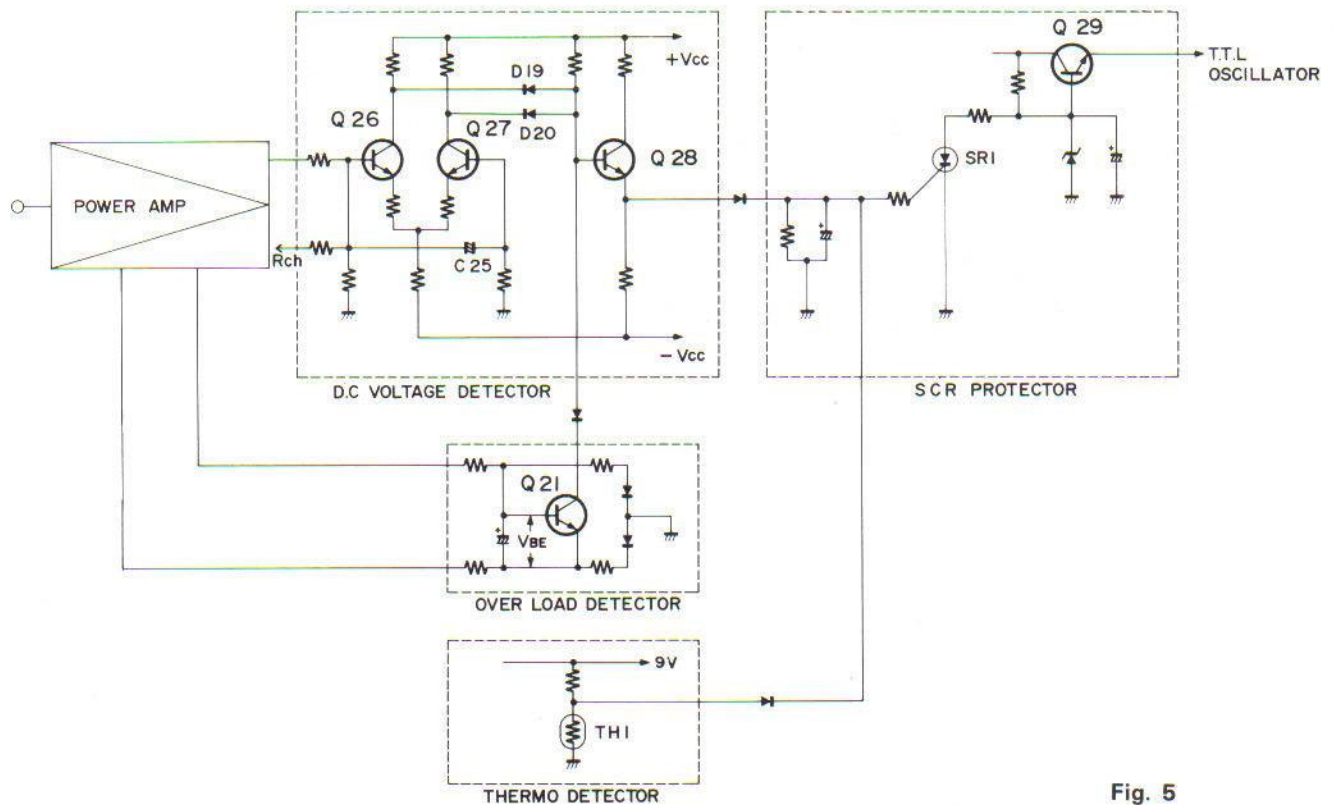

Fig. 5
2.4 PROTECTION CIRCUIT (FIG. 5)